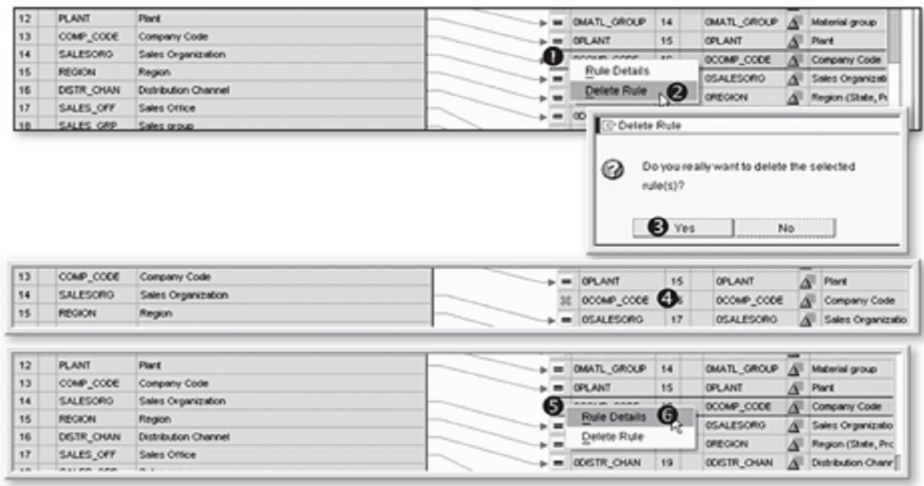

Figure 7.56 Deleting the Transformation Rule
As shown in ❶ of Figure 7.56, the COMP_CODE field is mapped to InfoObject OCOMP_CODE using a direct assignment transformation. We want to change the transformation type to *constant*, so our first step is to delete the proposed rule. Select InfoObject OCOMP_CODE as shown in ❶ of Figure 7.56, open the context menu, and select Delete Rule (❷). Click Yes in the resulting pop-up box (❸). The X in ❹ of Figure 7.56 indicates that no rule is assigned to InfoObject OCOMP_CODE.